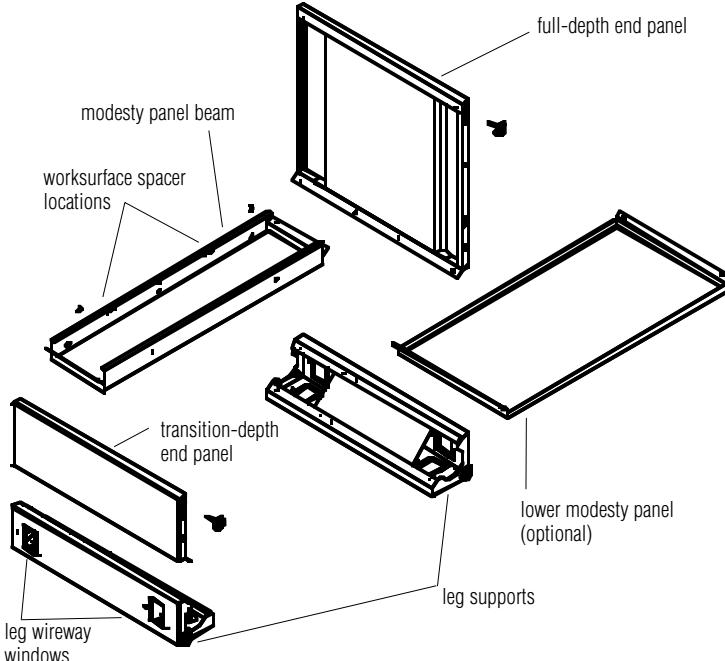

Figure 1
1. Remove all components from carton and locate hardware pack. Assemble one glide to each leg support on end with single-threaded inset. Attach leg wireway windows from inside of leg by hooking the long lip onto the rectangular cutout in leg support, flex the short lip slightly to clear cutout and push into place (Figure 1).
2. Place two leg supports on a soft surface approximately the same width as the desk. The open face of the triangular support should face up and toward the center of the workstation. Place a modesty panel beam between the leg supports, aligning holes in each flange with those of the leg supports. Secure with four $\frac{1}{4}$ -20 x $\frac{1}{2}$ screws (Figure 1).
3. Refer to space plan to determine whether the unit is to have full- or transition-depth end panels and their location. Align holes in end panel flange with those of the leg support. Secure with three $\frac{1}{4}$ -20 x $\frac{1}{2}$ screws. Assemble glide to the threaded insert facing the same direction as the leg support glides and adjust to approximately the same height (Figure 1).
If required, install lower modesty panel below modesty panel beam, aligning holes in each flange with those of the leg supports. Secure with four $\frac{1}{4}$ -20 x $\frac{1}{2}$ screws (Figure 1).